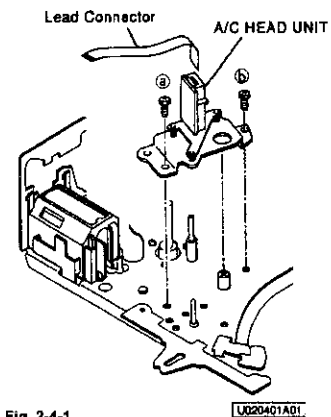
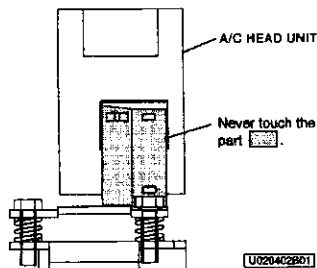

Fig. 2-4-1
Fig. 2-4-2
1. Disconnect the lead connector of the A/C HEAD UNIT shown in Fig. 2-4-1.
1. Install the A/C HEAD UNIT shown in Fig. 2-4-1. Note: Never touch the part shown in Fig. 2-4-2, if it is stained, clean it with alcohol.
2. Connect the lead connector of the A/C HEAD UNIT shown in Fig. 2-4-1.